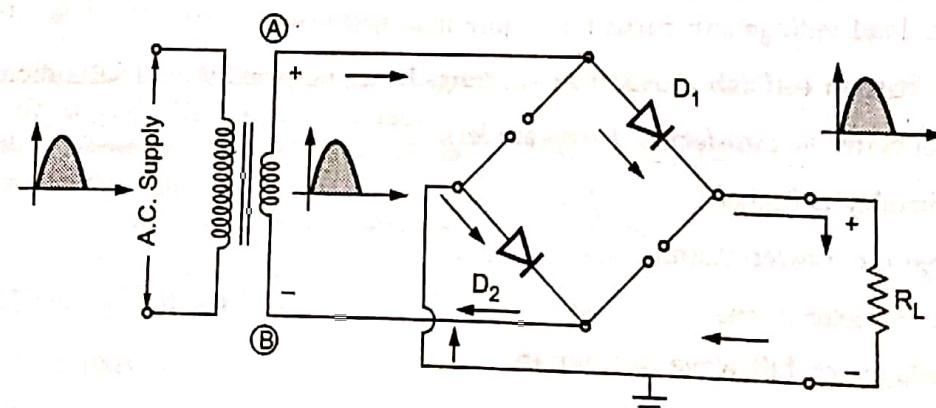

Fig. Q.19.2 Current flow during positive half cycle
- Consider the positive half of ac input voltage. The point A of secondary becomes positive. The diodes D₁ and D₂ will be forward biased, while D₃ and D₄ reverse biased. The two diodes D₁ and D₂ conduct in series with the load and the current flows as shown in Fig. Q.19.2.